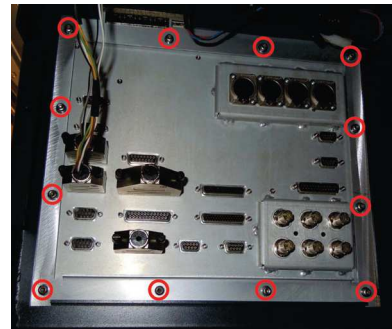

Fig. 7.15 12 screws
- 5 From the bottom of the cabinet, remove 12 Torx T20 screws holding the External I/O board (tools 1/8). The position of the screws is shown in Fig. 7.15 \(p. 122\).